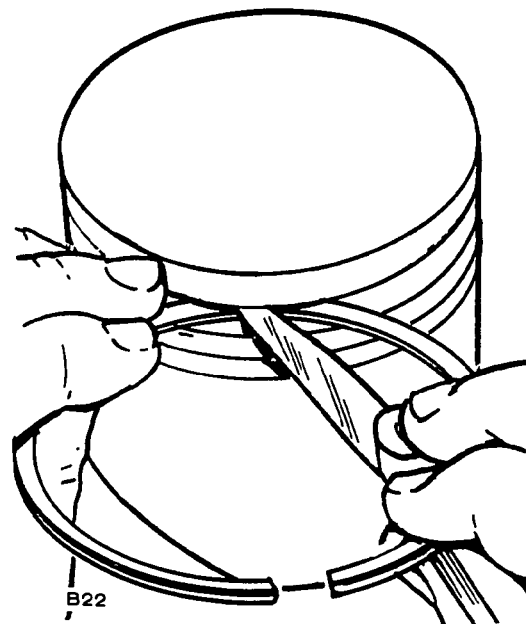

FIGURE 15. CHECKING RING SIDE CLEARANCE
1. Inspect the pistons for fractures at the ring lands, skirts and pin bosses. Check for wear at the ring lands using a new ring and feeler gauge (Figure 15). Replace the piston when the side clearance of the top compression ring reaches that specified in *DIMENSIONS AND CLEARANCES*.